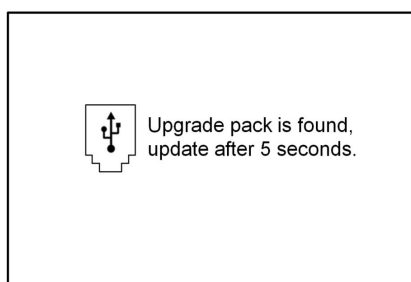
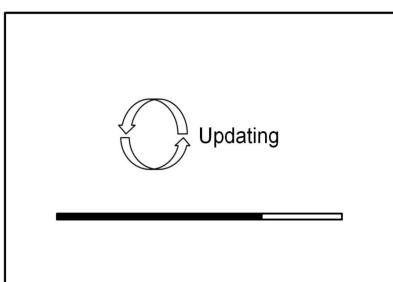
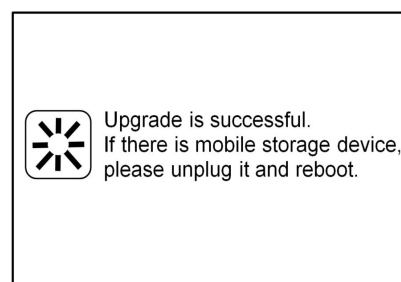

Figure 92
Figure 93
Figure 94
2) Turn on the power of the machine, the machine will automatically recognize the U disk information and display it for 5 seconds before the upgrade starts, as shown in Figure 92 below. The machine continues to upgrade, and the interface shown in Figure 93 appears below. After the upgrade of the standby device is completed, the interface shown in Figure 94 will appear. At this time, please unplug the U disk and restart the interface, so the software upgrade of machine is completed.